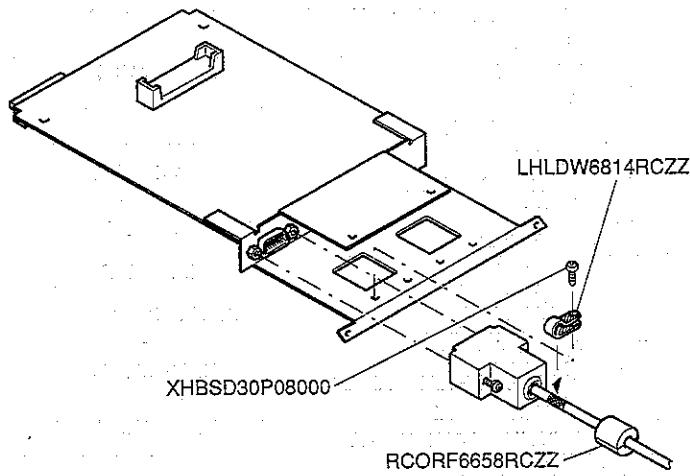

Fig. 2
- Strip the covering from RS-232C cable and install the frame ground clamp (LHLDW6814RCZZ). Then fasten it to the angle with the screw (XHBSD30P08000: Self tap screw). (Fig. 2)
- Be sure to install the core (RCORF6658RCZZ) on RS-232C cable. (Fig. 2)
① Insert two spacers ② and connect the connectors of the interface PWB together (Fig.2).
② Secure the brackets ④ with the screws ⑥ and ⑦ (LX-BZ6774RCZZ: Self tap screw).